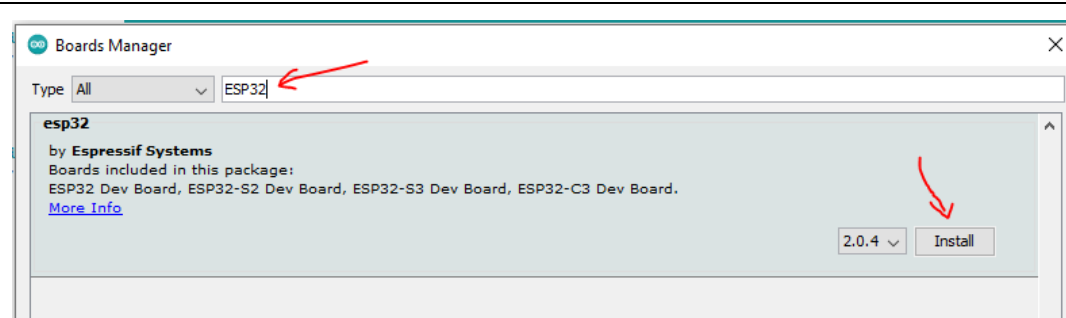
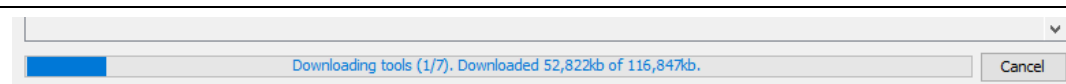

Figure-1.7. Filter Board information for ESP32
Figure-1.8. Process bar of board library download (At the bottom of Arduino IDE)
9. In Board Manager, key in 'ESP32' to filter out other boards (top arrow on Figure-1.7). Press 'Install' to install the latest version drivers (bottom arrow on Figure-1.7). Wait for installation, it will take a few minutes. The percentage of the process will be shown at the bottom of Arduino IDE, as in Figure-1.8.